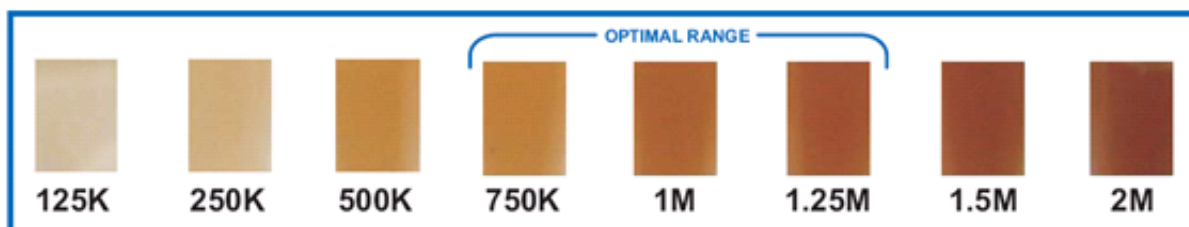

Figure 35 The SOLiD™ Bead Concentration Chart (facsimile). For best results, use the SOLiD™ Bead Concentration Chart (PN 4415131), supplied separately.
3. Use the SOLiD™ Bead Concentration Chart (Applied Biosystems PN 4415131) to estimate the bead concentration of the beads (see Figure 35 for a picture of the chart; for best results use the official chart).